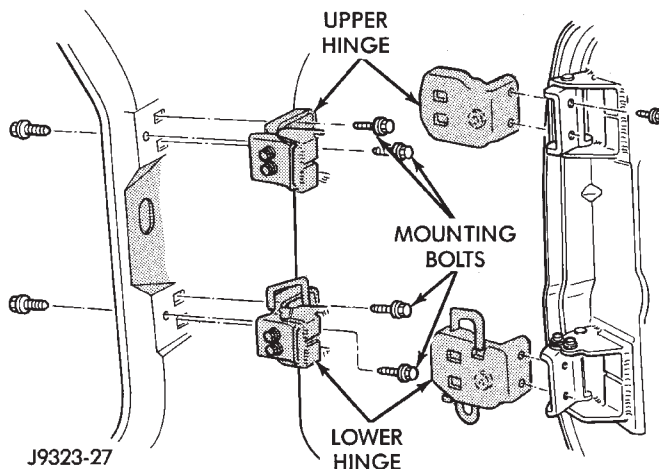

Fig. 16 Front Door Hinge
- (1) Open and support door.
- (2) Remove bolts attaching hinge to B-pillar (Fig. 16).
- (3) Separate door from vehicle.